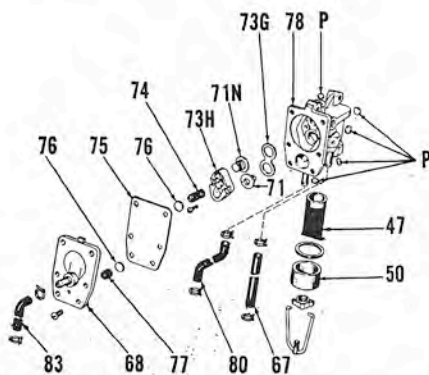

Fig. J50—Exploded view of fuel pump and strainer used on some late RD motors.
FUEL PUMP. Motors after 1959 are equipped with a diaphragm type fuel pump as shown in Fig. J50. Pressure and vacuum pulsations in the upper crankcase is directed through a passage in the cylinder to one side of the pump diaphragm (75). Vacuum in the crankcase draws the diaphragm in as shown in view (A—Fig. J51). This diaphragm movement draws fuel past the inlet check valve (5) as shown by arrow. As piston moves downward in cylinder (View
All defective or questionable parts should be renewed. Diaphragm (75—Fig. J50) should be renewed if air leaks or cracks are found, or if its condition is in any way questionable.